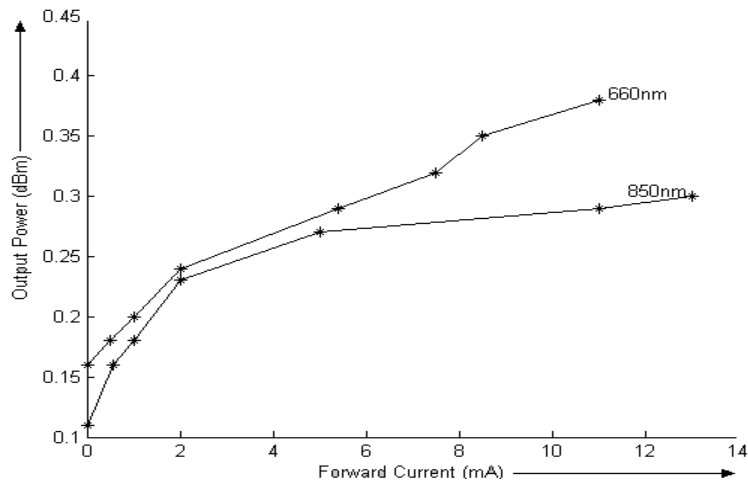

FIG. 2 LED CHARACTERISTICS
7. Plot a graph between P_0 and I_F as shown in the Fig 2.